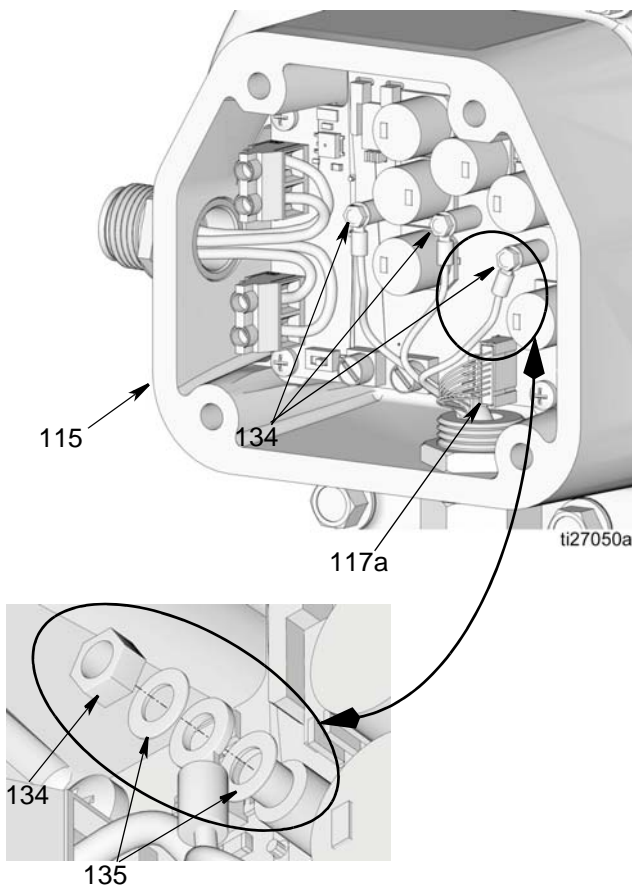

FIG. 66
- Remove nuts (134) as shown in FIG. 66. Remove washers (135) and motor wires from terminals.